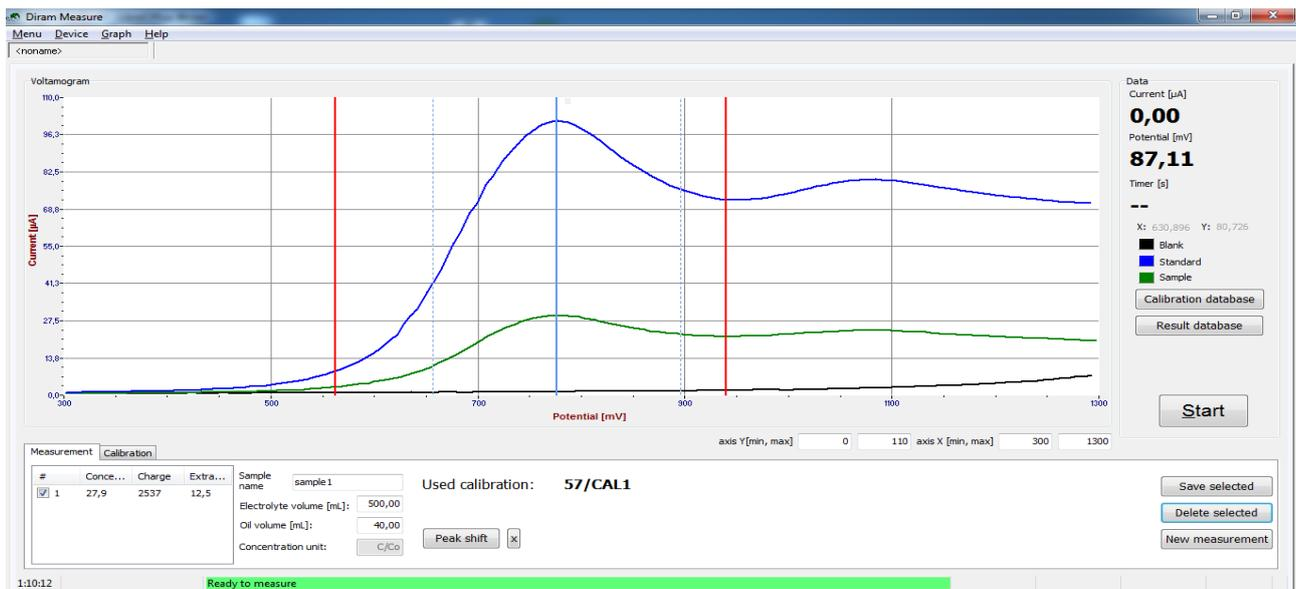

Figure 11: Adjustment of Sample potential.
- Shift peak position clicking *Peak shift* and then on the peak maximum so that the peak maximum is the same as in Standard (**Fig. 11**).
- The concentration is displayed (**Fig. 11**, 27.9 %).